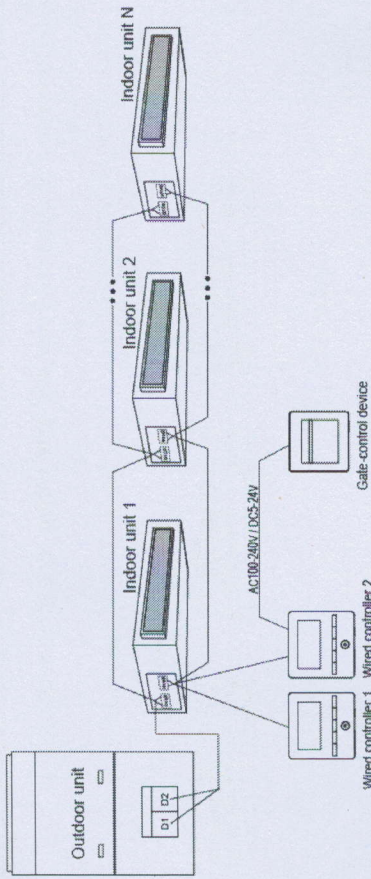
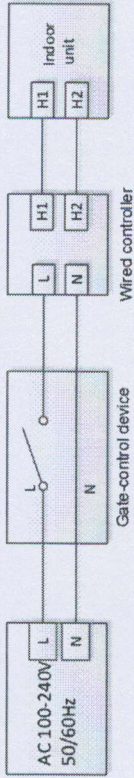
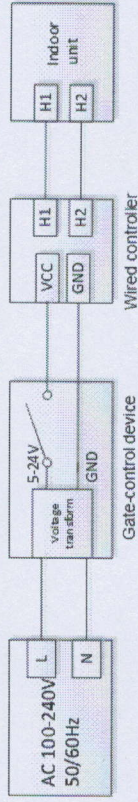

Figure 5.11 Connection fashion 2 of Wired Controller and Gate Control
Figure 5.12 Wired Controller Connecting to Gate Control AC100-240V
Figure 5.13 Wired Controller Connecting to Gate Control DC5-24V
- ① Wired controller 2 in figure 5.11 can be set as master controller or slave controller;
- ② Wired controller 1 in figure 5.11 can be model XK49 or other models.
- (4) Power input of gate control card insertion/removal device supported by wired controller: AC 100-240V~50/60Hz, DC 5~24V. In practice, connect the gate control output power cord with the corresponding power supply interface of wired controller according to the type of output power of gate-control device (Please refer to 5.1.4 Installation for wire connection of specific interface). Wired controller will judge the placing and absence of card by detecting the power supply of gate-control device. The detecting process is as follow:
- (5) Inserting or removing the gate control card is like connecting or disconnecting power of the gate control device. When the card is inserted, the device supplies power AC100-240V/DC5-24V to wired controller which identifies card insertion. When the card is removed, the device stops supplying power AC100-240V/DC5-24V to wired controller which identifies card removal. Figure 5.12 and figure 5.13 demonstrate wired controller connecting gate control power of AC100-240V or DC5-24V: